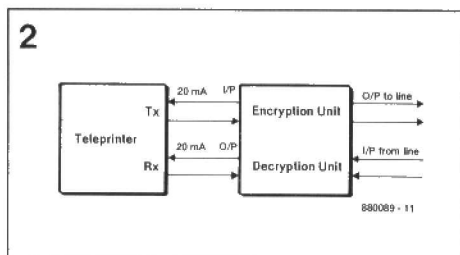

Fig. 2. Interfacing arrangement using 20 mA current loop.
the encryption unit. For simplicity, we will assume that the start and stop bits are not encrypted which is the procedure used in most cipher machines. The 5-bit block can be encrypted as a single block or one bit at a time. These are called Block and Stream Encryption respectively. (Usually blocks are made up of 64 or more bits.) The reader is referred to Ref (1) for an analysis of the various encryption operations. These need not be examined in this article. The actual electrical connection between teleprinter and encryption device is a 20 mA current loop illustrated in Figure 2. The start pulse has the same duration as a data pulse. The stop pulse is 1.5 times the duration. Hence, the code is referred to as a 7.5 bit code. There are 31 possible combinations (2^5-1) because the state 00000 is not used. The normal speed is 50 or 75 baud. There are other codes with other interfacing arrangements but the overall concept demonstrated by this example holds.